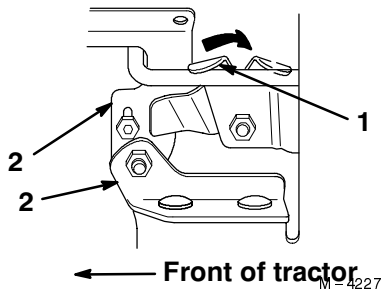

Figure 2
1. Press rearward on the hood catch as you begin to lower the hood (Fig. 2).